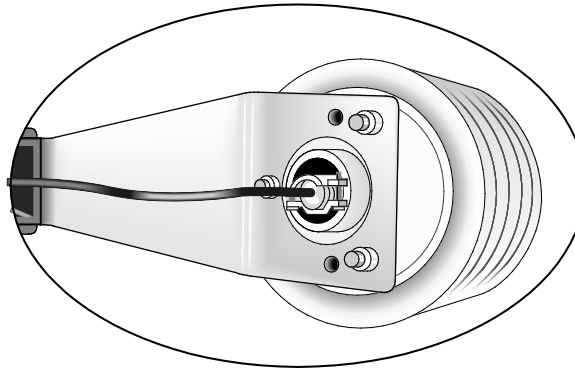

FIGURE 7-2. HMP60 and 41303-5A Radiation Shield
When used in the field, the HMP60 must be housed inside a solar radiation shield. Typically, the 41303-5A or RAD06 six-plate solar radiation shield is used. The HMP60 is held within the 41303-5A by a mounting clamp (FIGURE 7-2).
3. Tighten the screws on the collar until it firmly grips the probe body (see FIGURE 7-2).